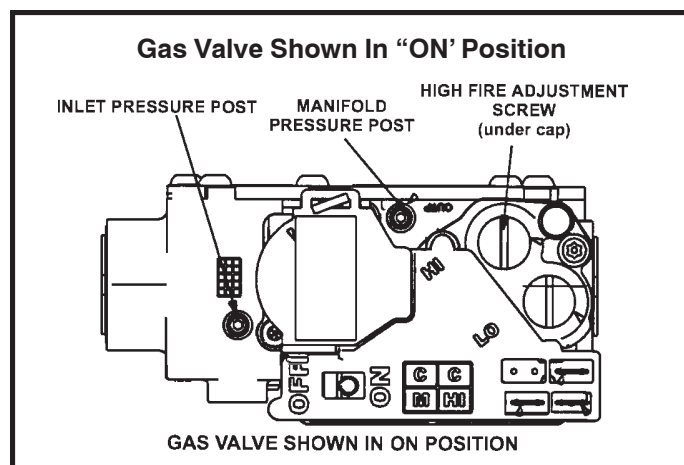

Figure 49
6. Move gas valve switch to **OFF**. See Figure 49.
8. Move gas valve switch to **ON**. See Figure 49.
1. A manifold post located on the gas valve provides access to the manifold pressure. See Figure 49. Back out the 3/32 Hex screw one turn, connect a piece of 5/16" tubing and connect to a manometer to measure manifold pressure.